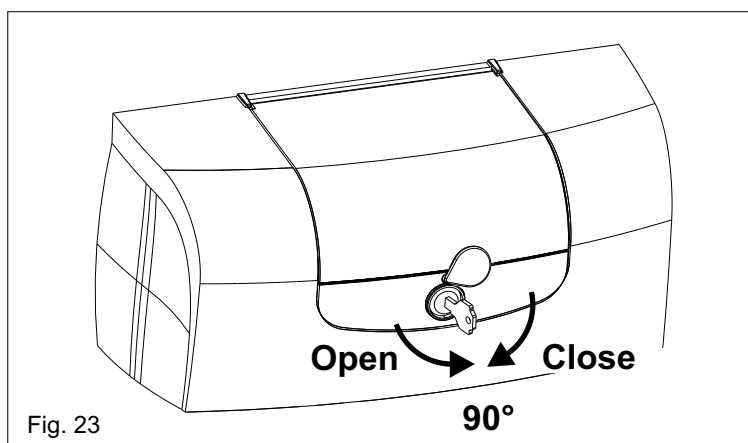

Fig. 23
- Open the lock cover (Fig.23).
- Insert the key and turn it about 90° counterclockwise (Fig.23), open the door.